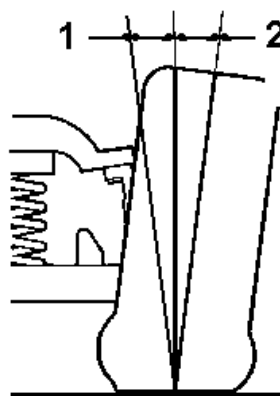

Fig. 10: Identifying Camber (Positive Camber Shown)
- Negative Camber - This is when the top of the tire leans in toward the vehicle (1). See Fig. 10.
- Positive Camber - This is when the top of the tire leans away from the vehicle (2). See Fig. 10.